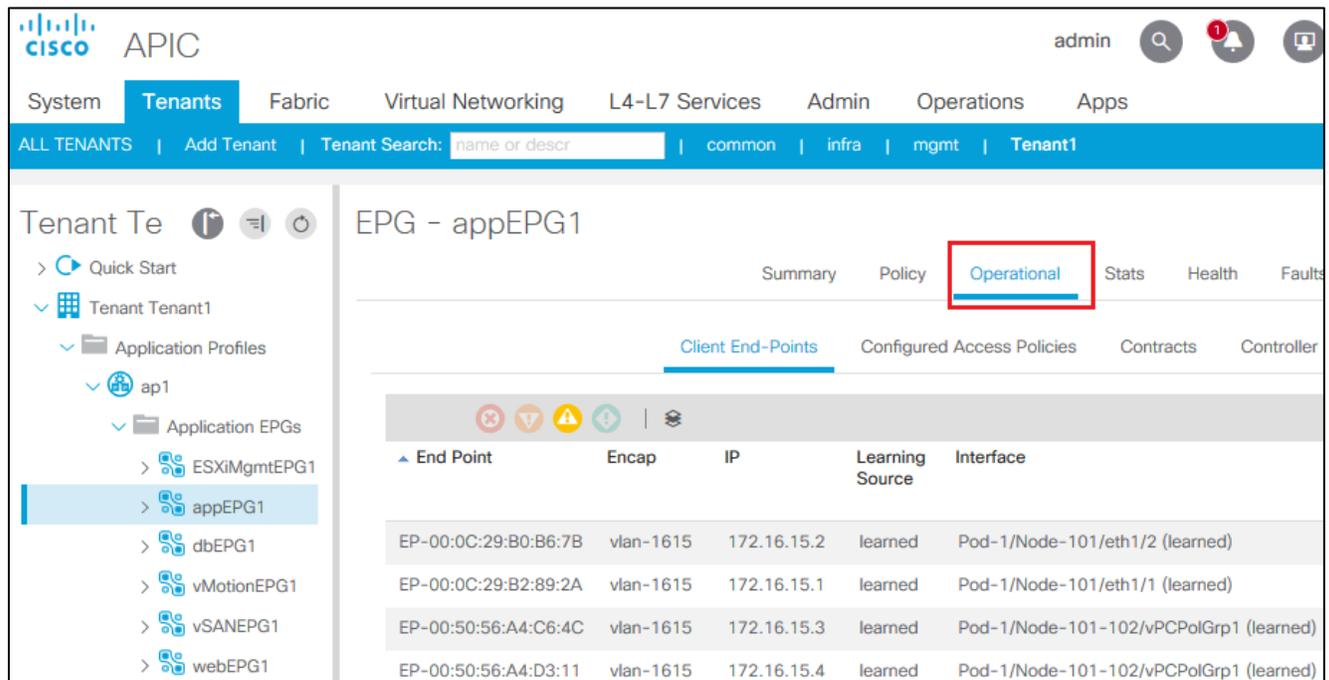

Figure 56 Cisco ACI endpoints in appEPG1
2. Click **Operational** at the top of the right pane as shown in Figure 56.